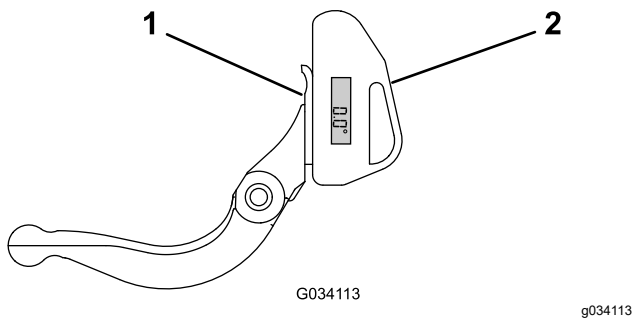

Figure 30
1. Place the angle indicator on the bottom side of the bedknife as shown in Figure 30.